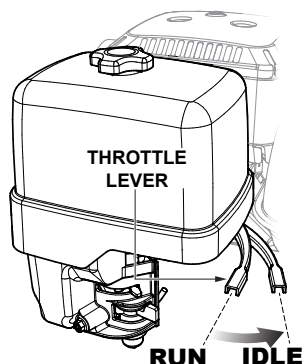
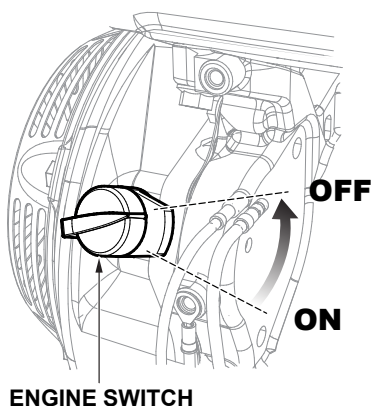

Figure 15. Engine Throttle Lever (Idle)
Figure 16. Engine ON/OFF Switch (OFF)
1. Place the engine throttle lever in the **IDLE** position (Figure 15) and run the engine for three minutes at low speed.
2. After the engine cools, place the engine ON/OFF switch in the **OFF** position (Figure 16).
Quickly move the **engine throttle lever** to the **IDLE** position (Figure 15), then place the **engine ON/OFF switch** in the **OFF** position (Figure 16).